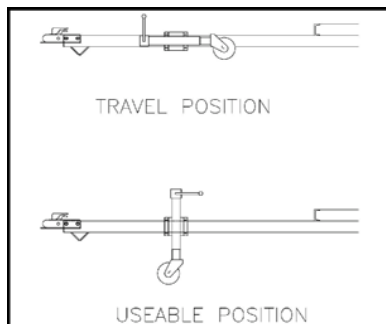
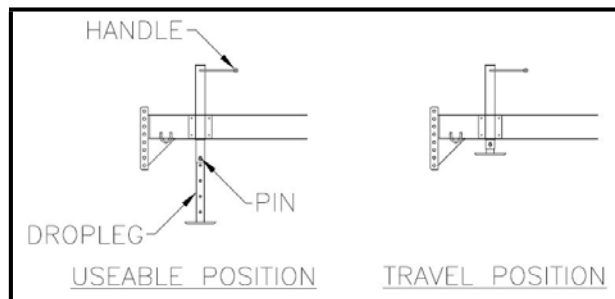

Fig. 1A Tongue Jack Positions
Fig. 1B Dropleg Tongue Jack Positions
After hooking up the trailer to the tow vehicle, fully retract the front tongue jack and lock it into the travel position (*see Fig. 1A or 1B*).
2. The tow vehicle must now be uncoupled from the unit. Remove the safety pin and unlatch the coupler. Either swivel and lock the front tongue jack into the useable position and crank it down so the tow vehicle can be moved away (*see Fig. 1A*) **OR** pull the pin on the dropleg jack and allow the leg to drop to it's lowest position. Realign the through holes and reinsert the pin. Crank it down so the tow vehicle can be moved away (*see Fig. 1B*). Disconnect the safety chains, light connector cable, and breakaway cable from the tow vehicle.